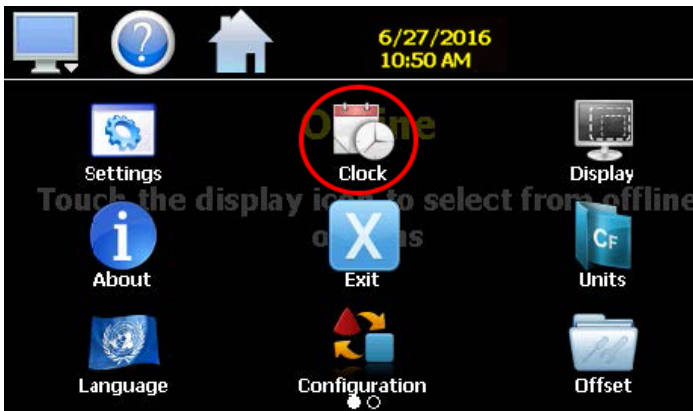

Fig. 101: Clock Icon
1. Select HOME - MONITOR - (swipe screen) SETTINGS - MONITOR - OFFLINE - Select YES - MONITOR - CLOCK icons (Fig. 101).